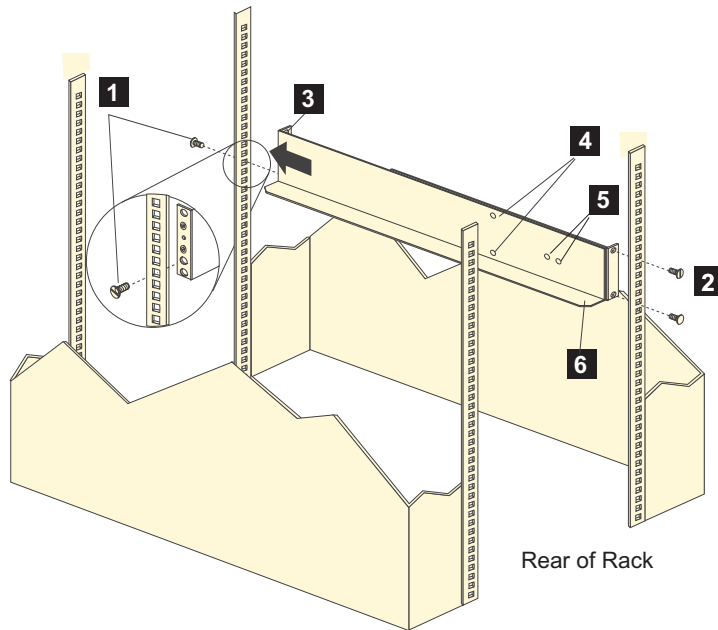

Figure 20. Installing the support rails
**Note:** Refer to Figure 20 on page 40 while performing these steps.
**Note:** The support rails are not marked as left or right. However, each rail can be correctly mounted on only one side of the rack cabinet. The rails should be mounted with the alignment pins at the back of the rack. Figure 20 on page 40 shows the installation of the left support rail.
2. Using a #2 Phillips screwdriver, remove the four screws from the rails (two screws in each rail). See **4** in Figure 20 on page 40. If you do not remove these screws, the storage subsystem will not fit securely.